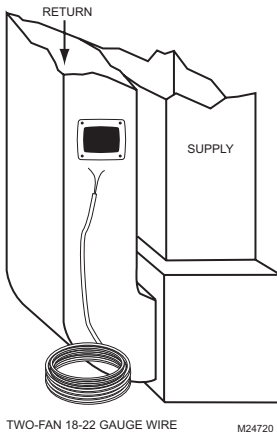

Fig. 5. Run wire to the mounting location.
3. Run two-fan, low-voltage wire to the mounting location on the duct. See Fig. 5.